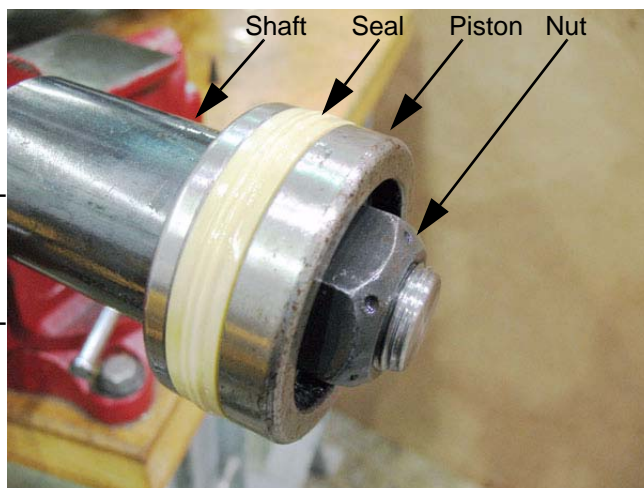

Figure 5.8
- 2.15. Remove the nut that holds the piston to the shaft using a 1-5/16" wrench. See Figure 5.8.